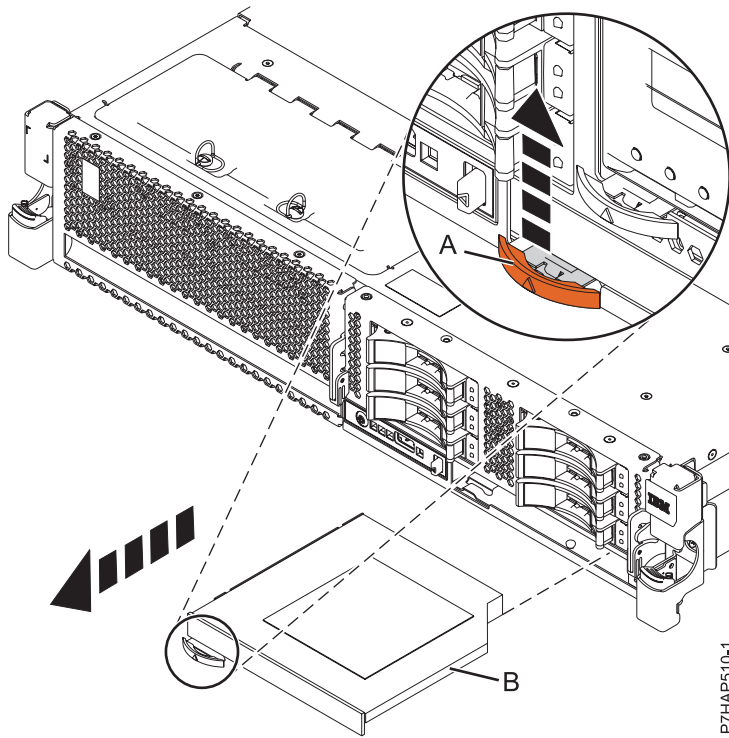

Figure 4. Removing the Slimline media device from the disk drive backplane
- b. Align the small tabs in the slots of the media device **(B)**, and insert the device and clip at the same time. Then, push the tab **(A)** in until it locks into place. See figure 4 or 5 based on the configuration of your system.